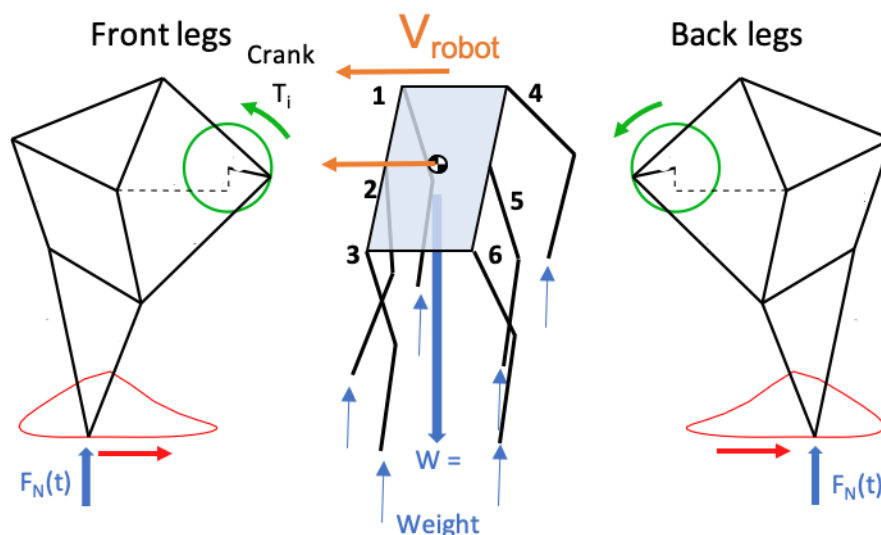

Figure 1. 6-legged Strandbeest and orientations of front and back legs and path motions for feet.
- **Gait & leg coordination:** Strandbeest is designed so the 6 legs are broken up into 3 pairs (Figure 1). All legs are driven off a single drive shaft, and the robot has a gait where 3 legs touch the ground at any given moment. Each pair of legs (front & back) face in opposite directions leading them to be 180 degrees out of phase. Each leg is a Jansen linkage, which can be operated the same in forward or reverse, which we will be able to see after performing PVA analysis. The crank shafts of each pair are set 180 degrees off from one another, so each pair of legs is 180 degrees out of phase.